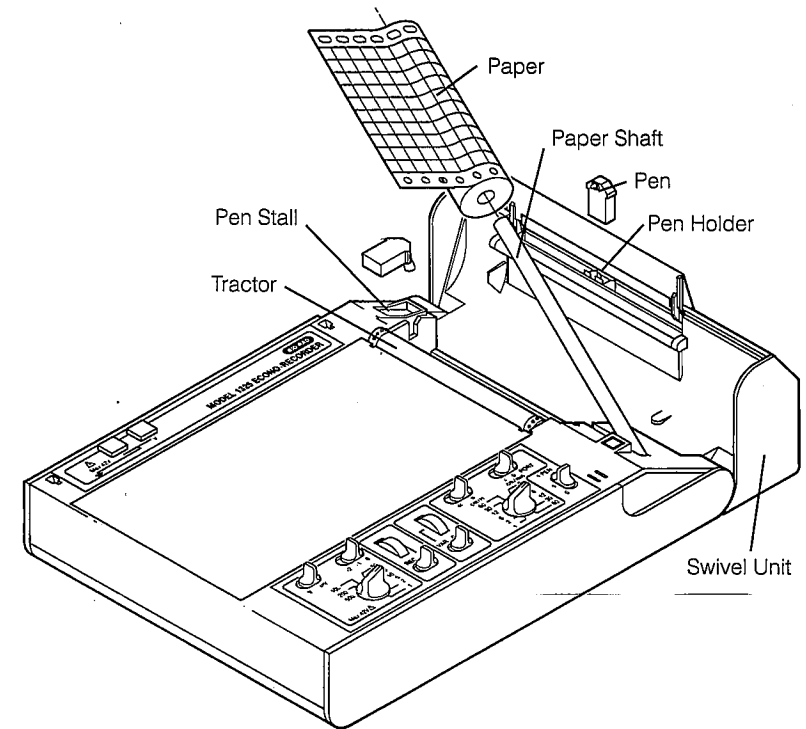

Fig. 4.1. Chart paper and pen installation.
1. Pull the swivel unit up and back (see Figure 4.1).
Remove the cap from the pen and store it in the pen stall. Insert pen into the pen holder until it stops (see Figure 4.1).